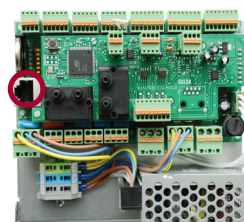

Figure 2
- Use an MCB cable with RJ10 ↔ RJ45 connection (included in the supply), so that to connect with the ventilation unit equipped with an MCB or miniMCB control panel (Fig. 2, 3);